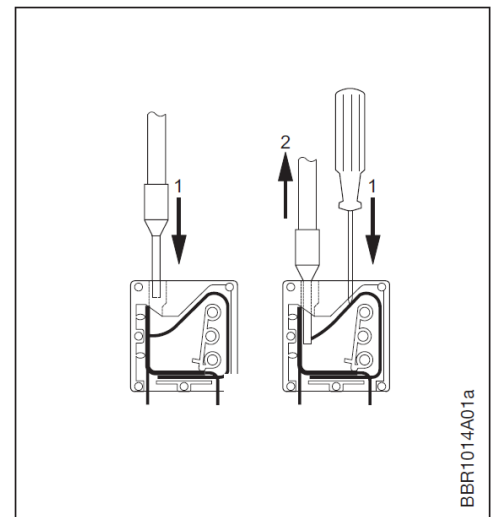

Fig. 3-9: Use of spring terminals
- The connection terminals are spring loaded. Stripped wire with crimped end sleeves can be easily inserted into the terminal by carefully pushing the wire into the terminal without using tools. Alternatively, the terminal spring can be loosened by pressing it lightly with a screwdriver or similar implement (see fig. 3-9).
- Wires can be removed by carefully loosening the terminal spring by pressing lightly with a screwdriver or similar implement (see fig. 3-9).